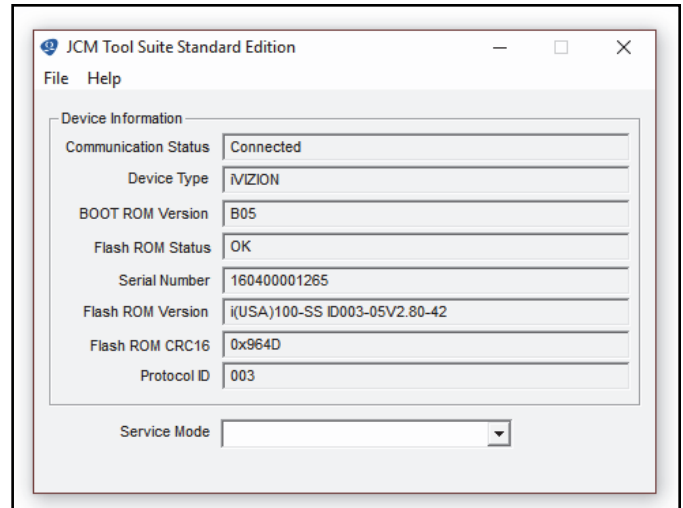

Figure 2: JCM Tool Suite Application v. 1.42 User Interface
**Answer:** JCM has released the JCM Tool Suite™ Standard Edition Software Application v1.42 (Figure 2). The iVIZION Calibration Application has been updated to version 1.65.00. In this version: